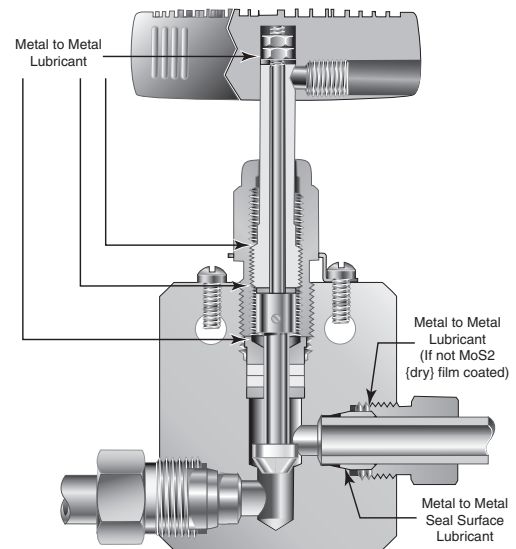

Figure 1
**2. Hand Valves** - Ideally, the non-rotating stem should be lubricated along the shank that fits into the threaded stem sleeve as well as on the surfaces that are in contact with the stem washers. The threaded stem sleeve should be lubricated on the stem threads and at the ends (see Figure 1). The packing gland should be lubricated on the external threads and on the end that is in contact with the packing washer. For valves with replaceable seats,